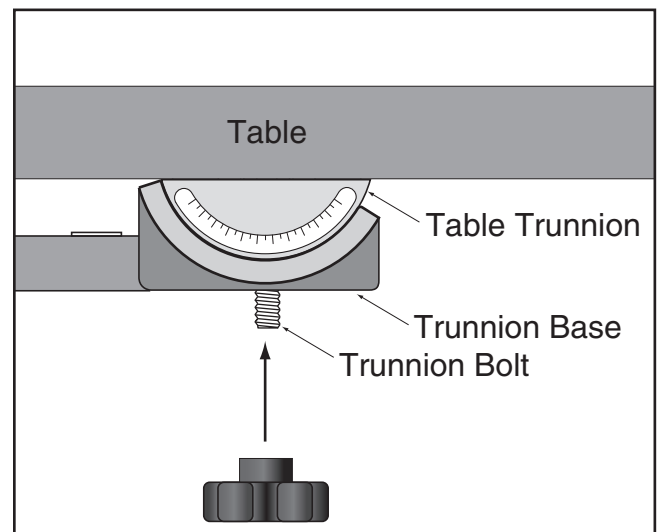

Figure 12. Table installation on trunnion base.
14. Thread the two M10-1.5 knobs onto the trunnion bolts hanging through the bottom of the trunnion base, as illustrated in **Figure 12**.